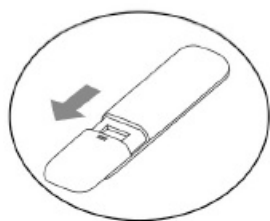

Fig. 1
- Open the battery compartment by sliding the door outwards (see the direction of the arrow in fig.1).